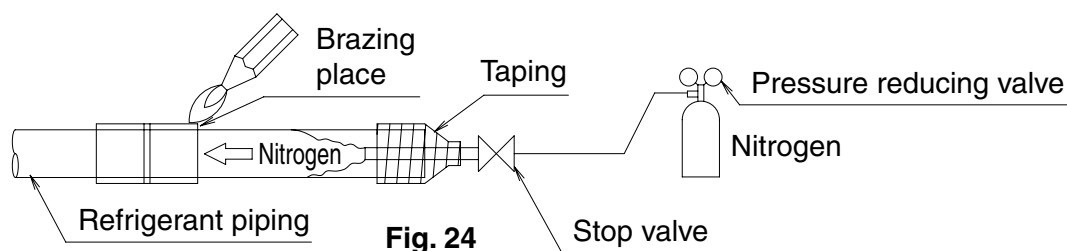

Fig. 24
- Before brazing refrigerant piping, have nitrogen flow through the refrigerant piping and substitute air with nitrogen (NOTE 1). **(Refer to Fig. 24)** Then, carry out brazing (NOTE 2). After all the brazing works are finished, carry out flare connection with the indoor unit. **(Refer to Fig. 21)**